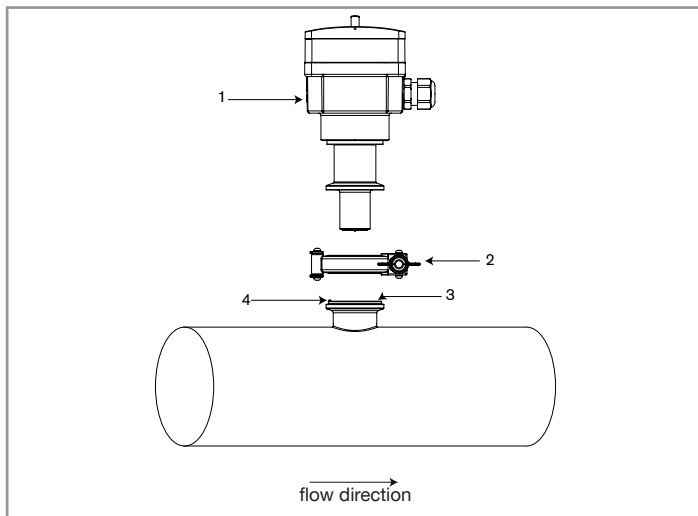

Fig. 9: Installation into the pipe of a 8045 with a clamp connection
- Install the seal (mark 3, Fig. 9) on the S020 fitting.
- Make sure that the polarizing pin (mark 4, Fig. 9) is on the fitting.
- Insert the device (mark 1, Fig. 9) into the fitting. Position the arrow on the side of the device in the direction of the flow: the totalizers will increment.
- Tighten by hand the clamp collar (mark 2, Fig. 9).